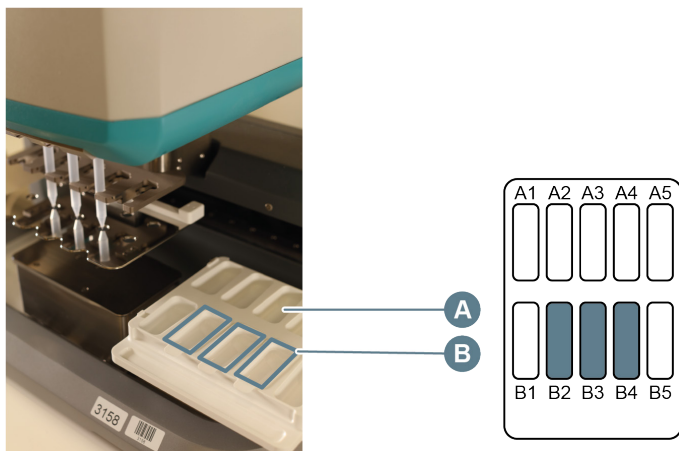

Figure 50. Reservoir tray in filling position
3. Slide the reservoir tray to the filling position (A) and place three new reservoirs in position B2, B3 and B4 (B) (Figure 50).